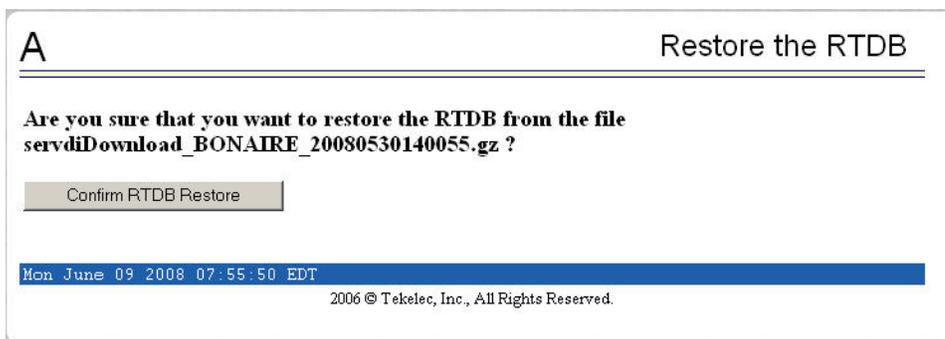

Figure 83: Confirm RTDB Restore
6. To confirm restoring the file, click the **Confirm RTDB Restore** button on the confirmation dialog, *Figure 83: Confirm RTDB Restore*.